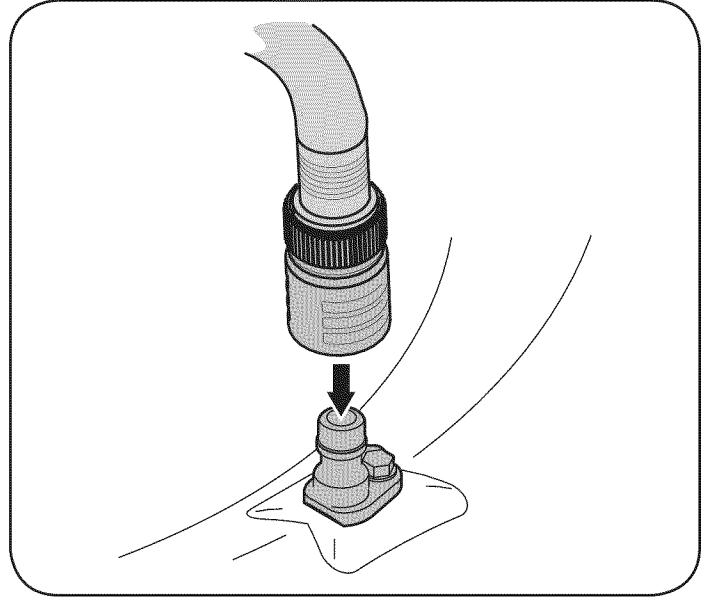

Figure 42
4. Attach the hose coupler to the water port on your deck's surface. See Fig. 42.